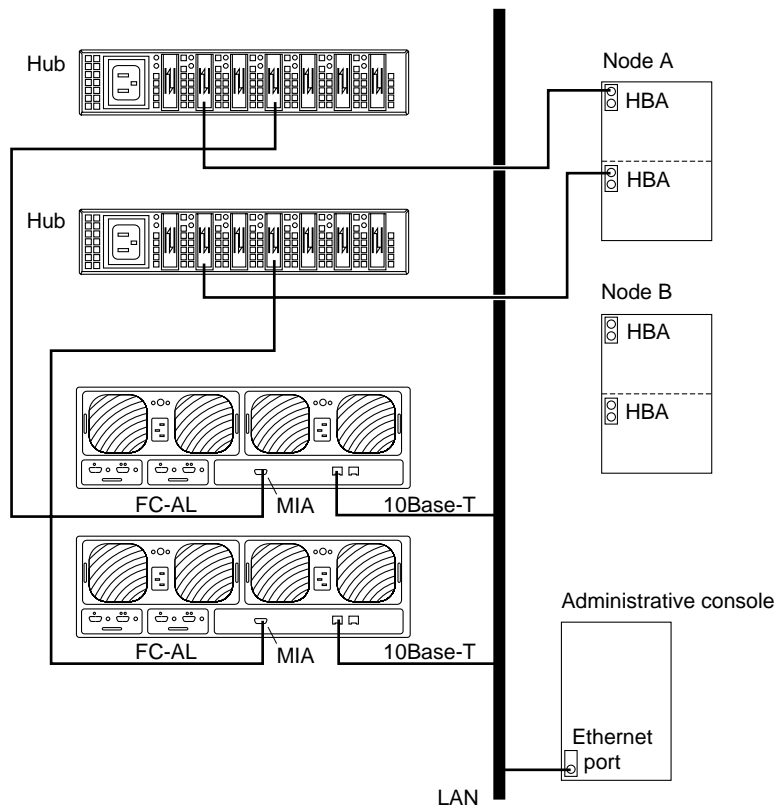

FIGURE B-3 Adding a Sun StorEdge T3 disk tray in a single-tray configuration
20. If necessary, install gigabit interface converters (GBIC) as shown in FIGURE B-3.
21. If necessary, connect a fiber optic cable between the Sun StorEdge FC-100 hub and Node A as shown in FIGURE B-3.